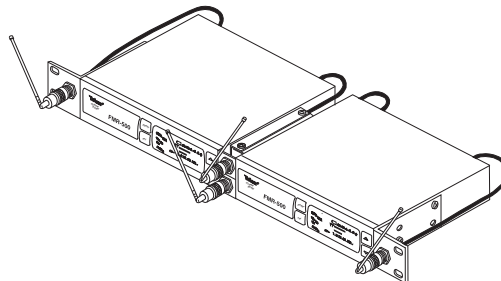

Figure 4
3. Attach the supplied extension cables from the rack connectors to the antenna connections on the back of the receiver. See Figure 4.